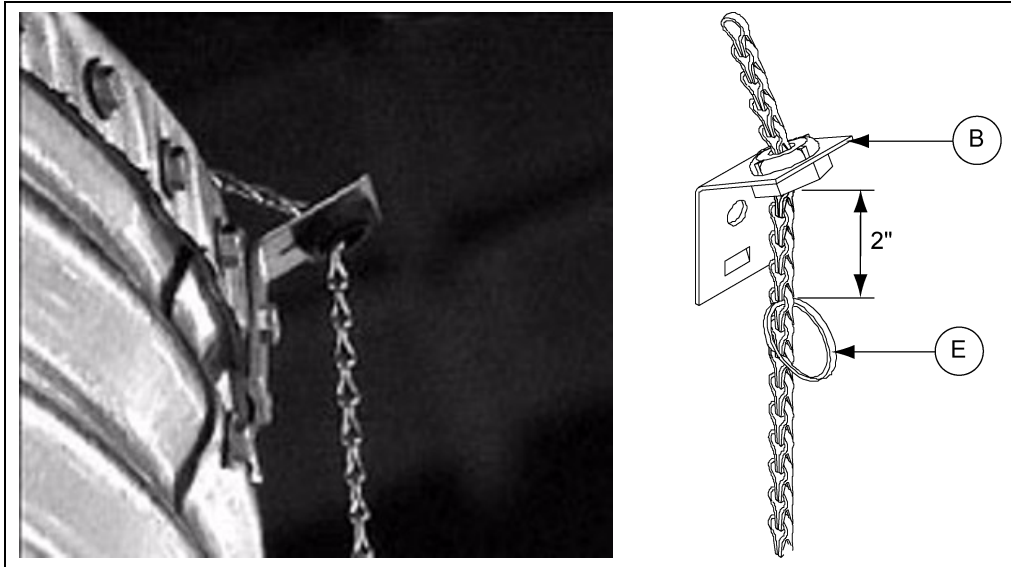
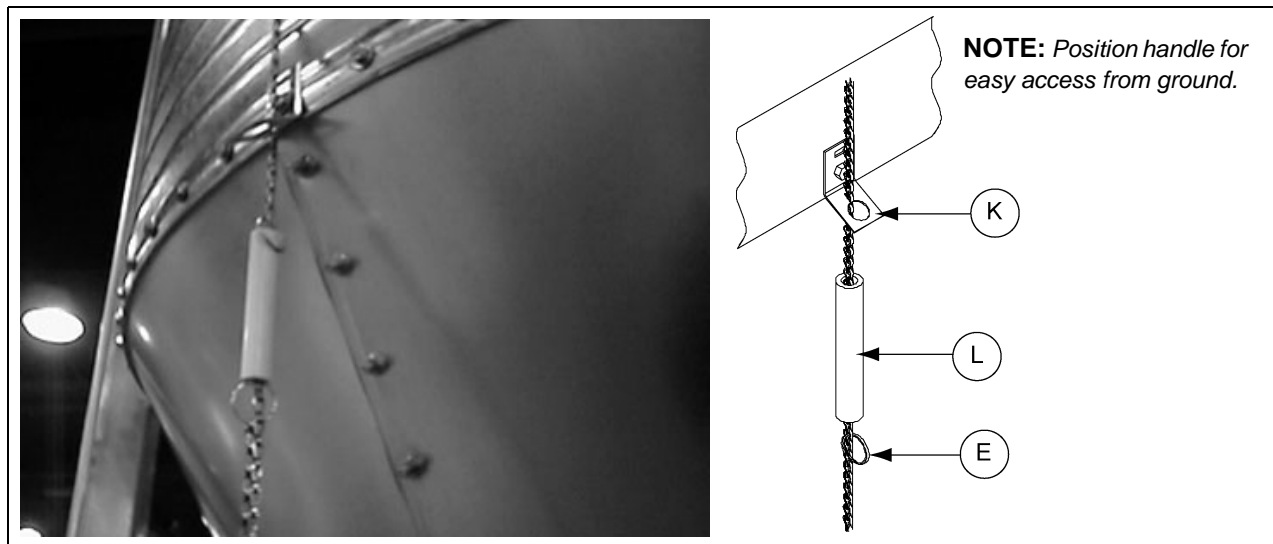

Figure 11I
Figure 11J
- Thread the existing chain through the hole on the end of the lever arm and fasten it to the provided key ring. (See Figure 11B on Page 58.) Ensure that the ground control chain is freely looped through the roof eave bracket and chain holder. After removing the slack in the chain while the lid is fully closed and in latched position, re-position the key ring 2" below the roof eave bracket. (See Figure 11I.) Re-adjust the existing handle and key ring so the handle is positioned for easy access from ground. (See Figure 11J.) Check to make sure that the key rings allow the cap to fully close, but will not allow the chain enough slack on top of the cap to become wrapped around the lever arm in a high wind condition.